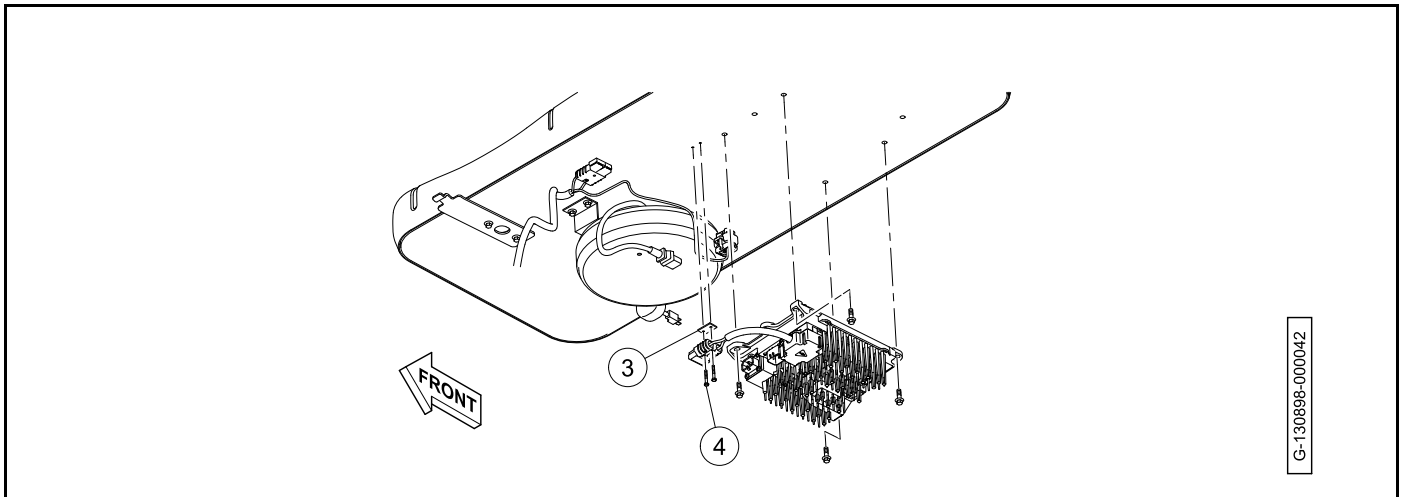

Figure 15-37 Charger Power Harness Connector Screws
2. Install the insulator (3) and the screws (4) (**Figure 15-37**). Tighten the screws to 11 in·lb (1.25 N·m).